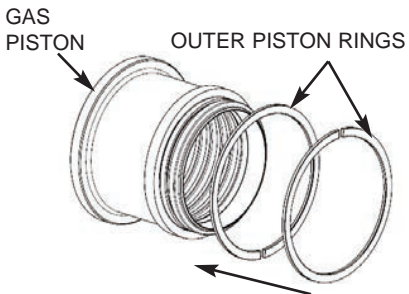

Figure 18A
1. Slide the outer two piston rings onto the piston. Orient the slots 180 degrees apart as shown in Figure 18A.